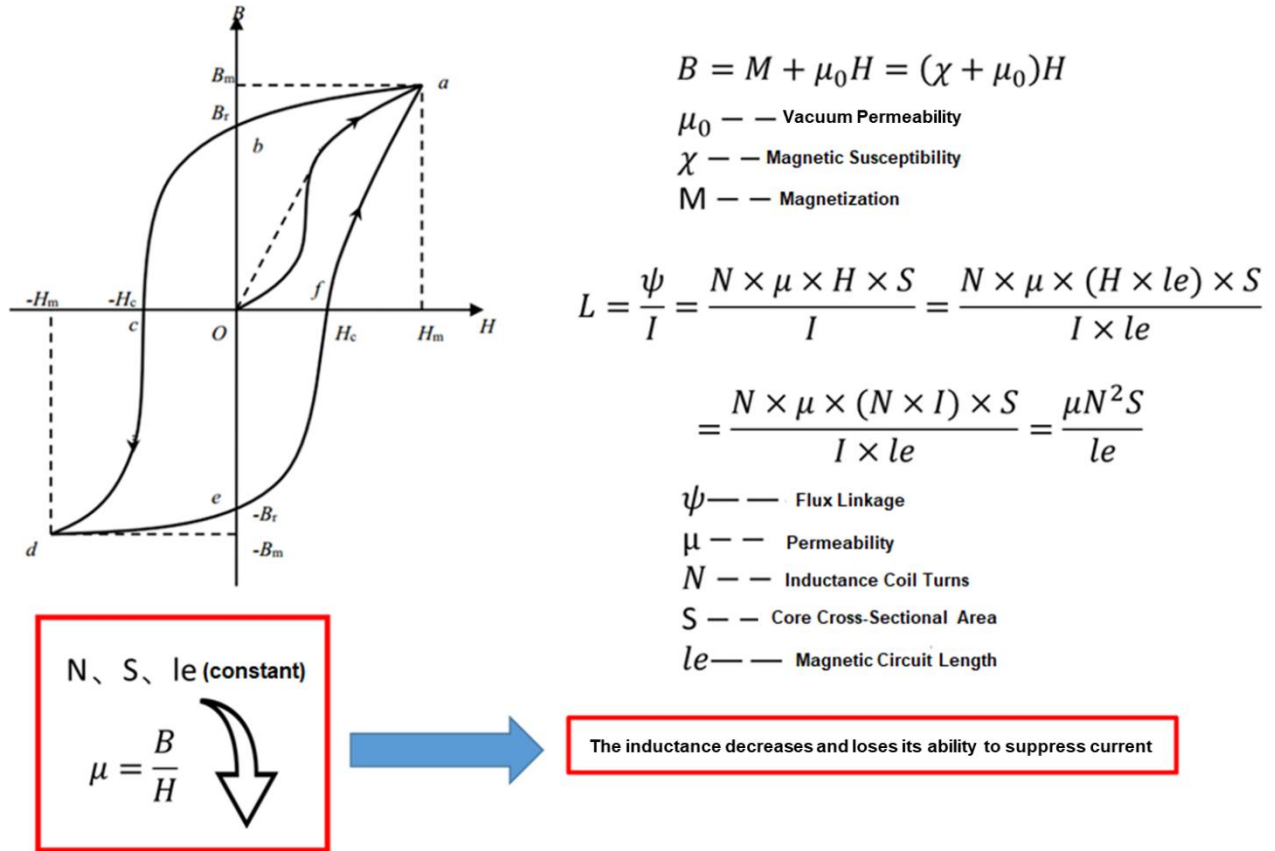

Figure 2: Magnetization Curve and Formulas
Figure 2 shows another perspective of inductor saturation, as well as an equation that shows how the system's flux density (B) and magnetic field strength (H) can affect inductance.